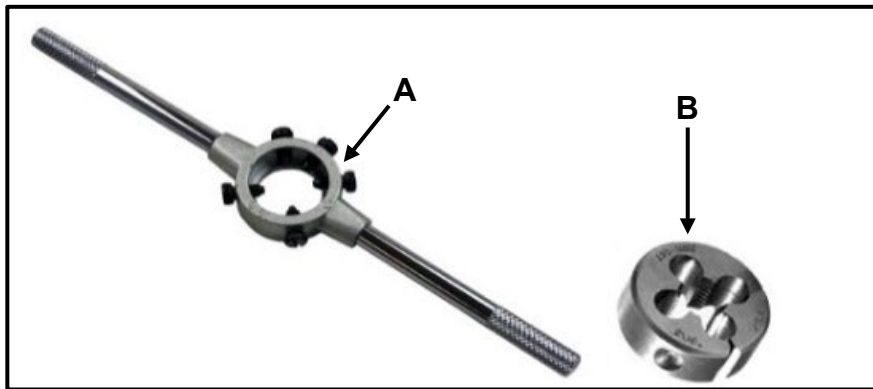

FIGURE 6.1
6.1 Identify tools **A** and **B**, as shown in FIGURE 6.1 below.